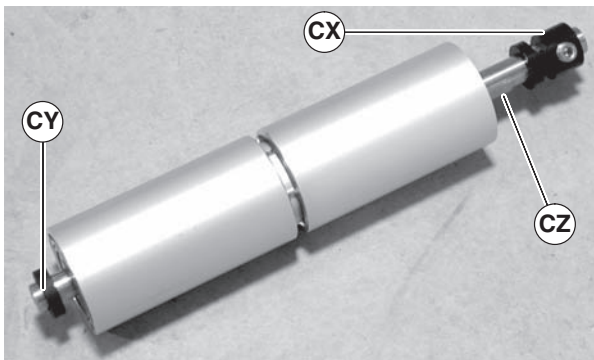

Figure 87
8. Remove the tension pulley locking collar (Figure 87, item CX), spacer (CY) and pulley shaft (CZ) from the roller pulley shaft assembly.